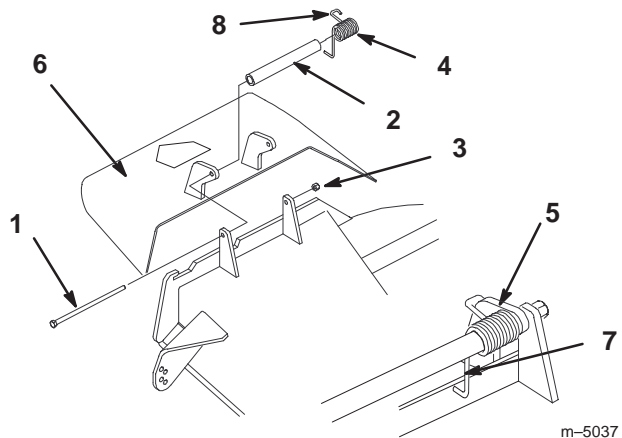

Figure 30
1. Remove the locknut, bolt, spring and spacer holding the deflector to the pivot brackets (Fig. 30). Remove damaged or worn grass deflector.
Note: Make sure the L end of spring is installed behind deck edge before installing the bolt as shown in figure 30.
3. Install bolt and nut. Place the J hook end of spring around grass deflector (Fig. 30).